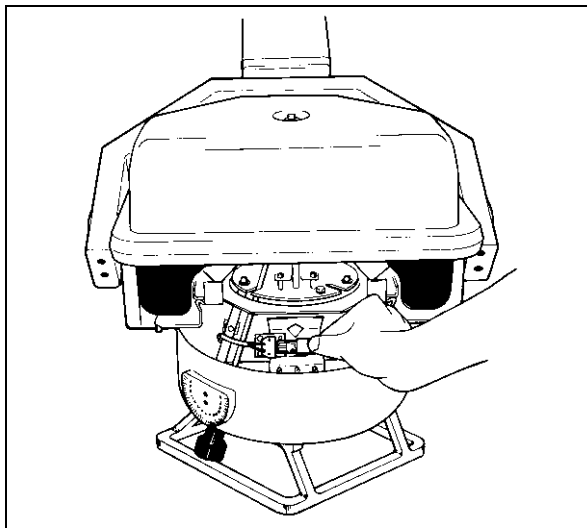

Fig. 31:
- Remove the lamp and replace it with a new lamp, (Fig. 31 / p. 52). **Do not touch the glass bulb with your fingers.**